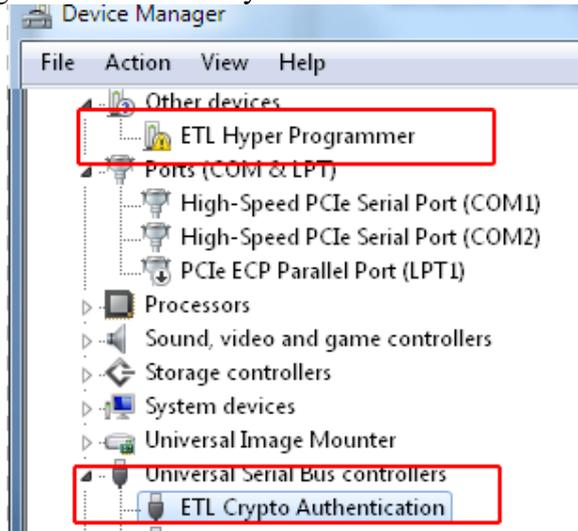

Figure 9. The "ETL Crypto Authentication" device successful installation
- One of the drivers was installed successfully (Figure 9). Install another driver for the "ETL Hyper Programmer" same way.